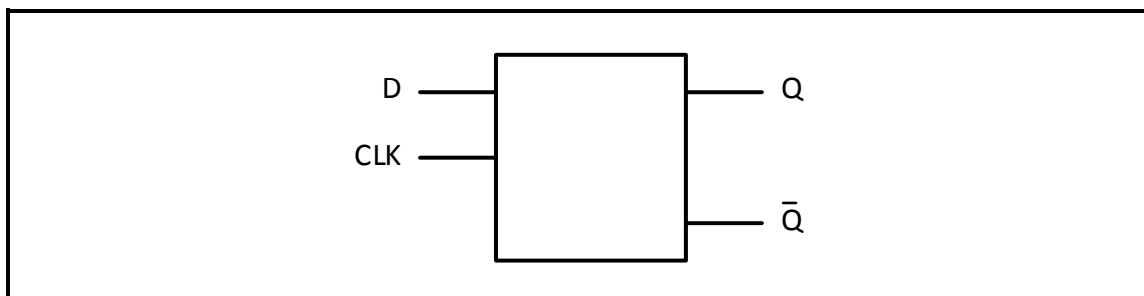

FIGURE 5.4
5.4 FIGURE 5.4 below represents the logic symbol of a D-type flip-flop.